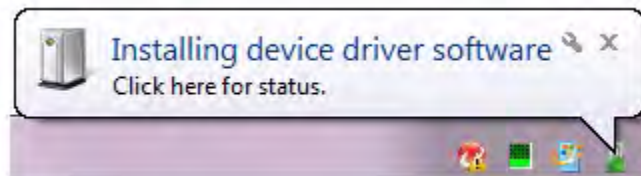

Figure 26. Install Device Driver Dialog, Windows 7
2. After the PC detects the new hardware, it will display the *Installing device driver software* dialog shown in Figure 26.